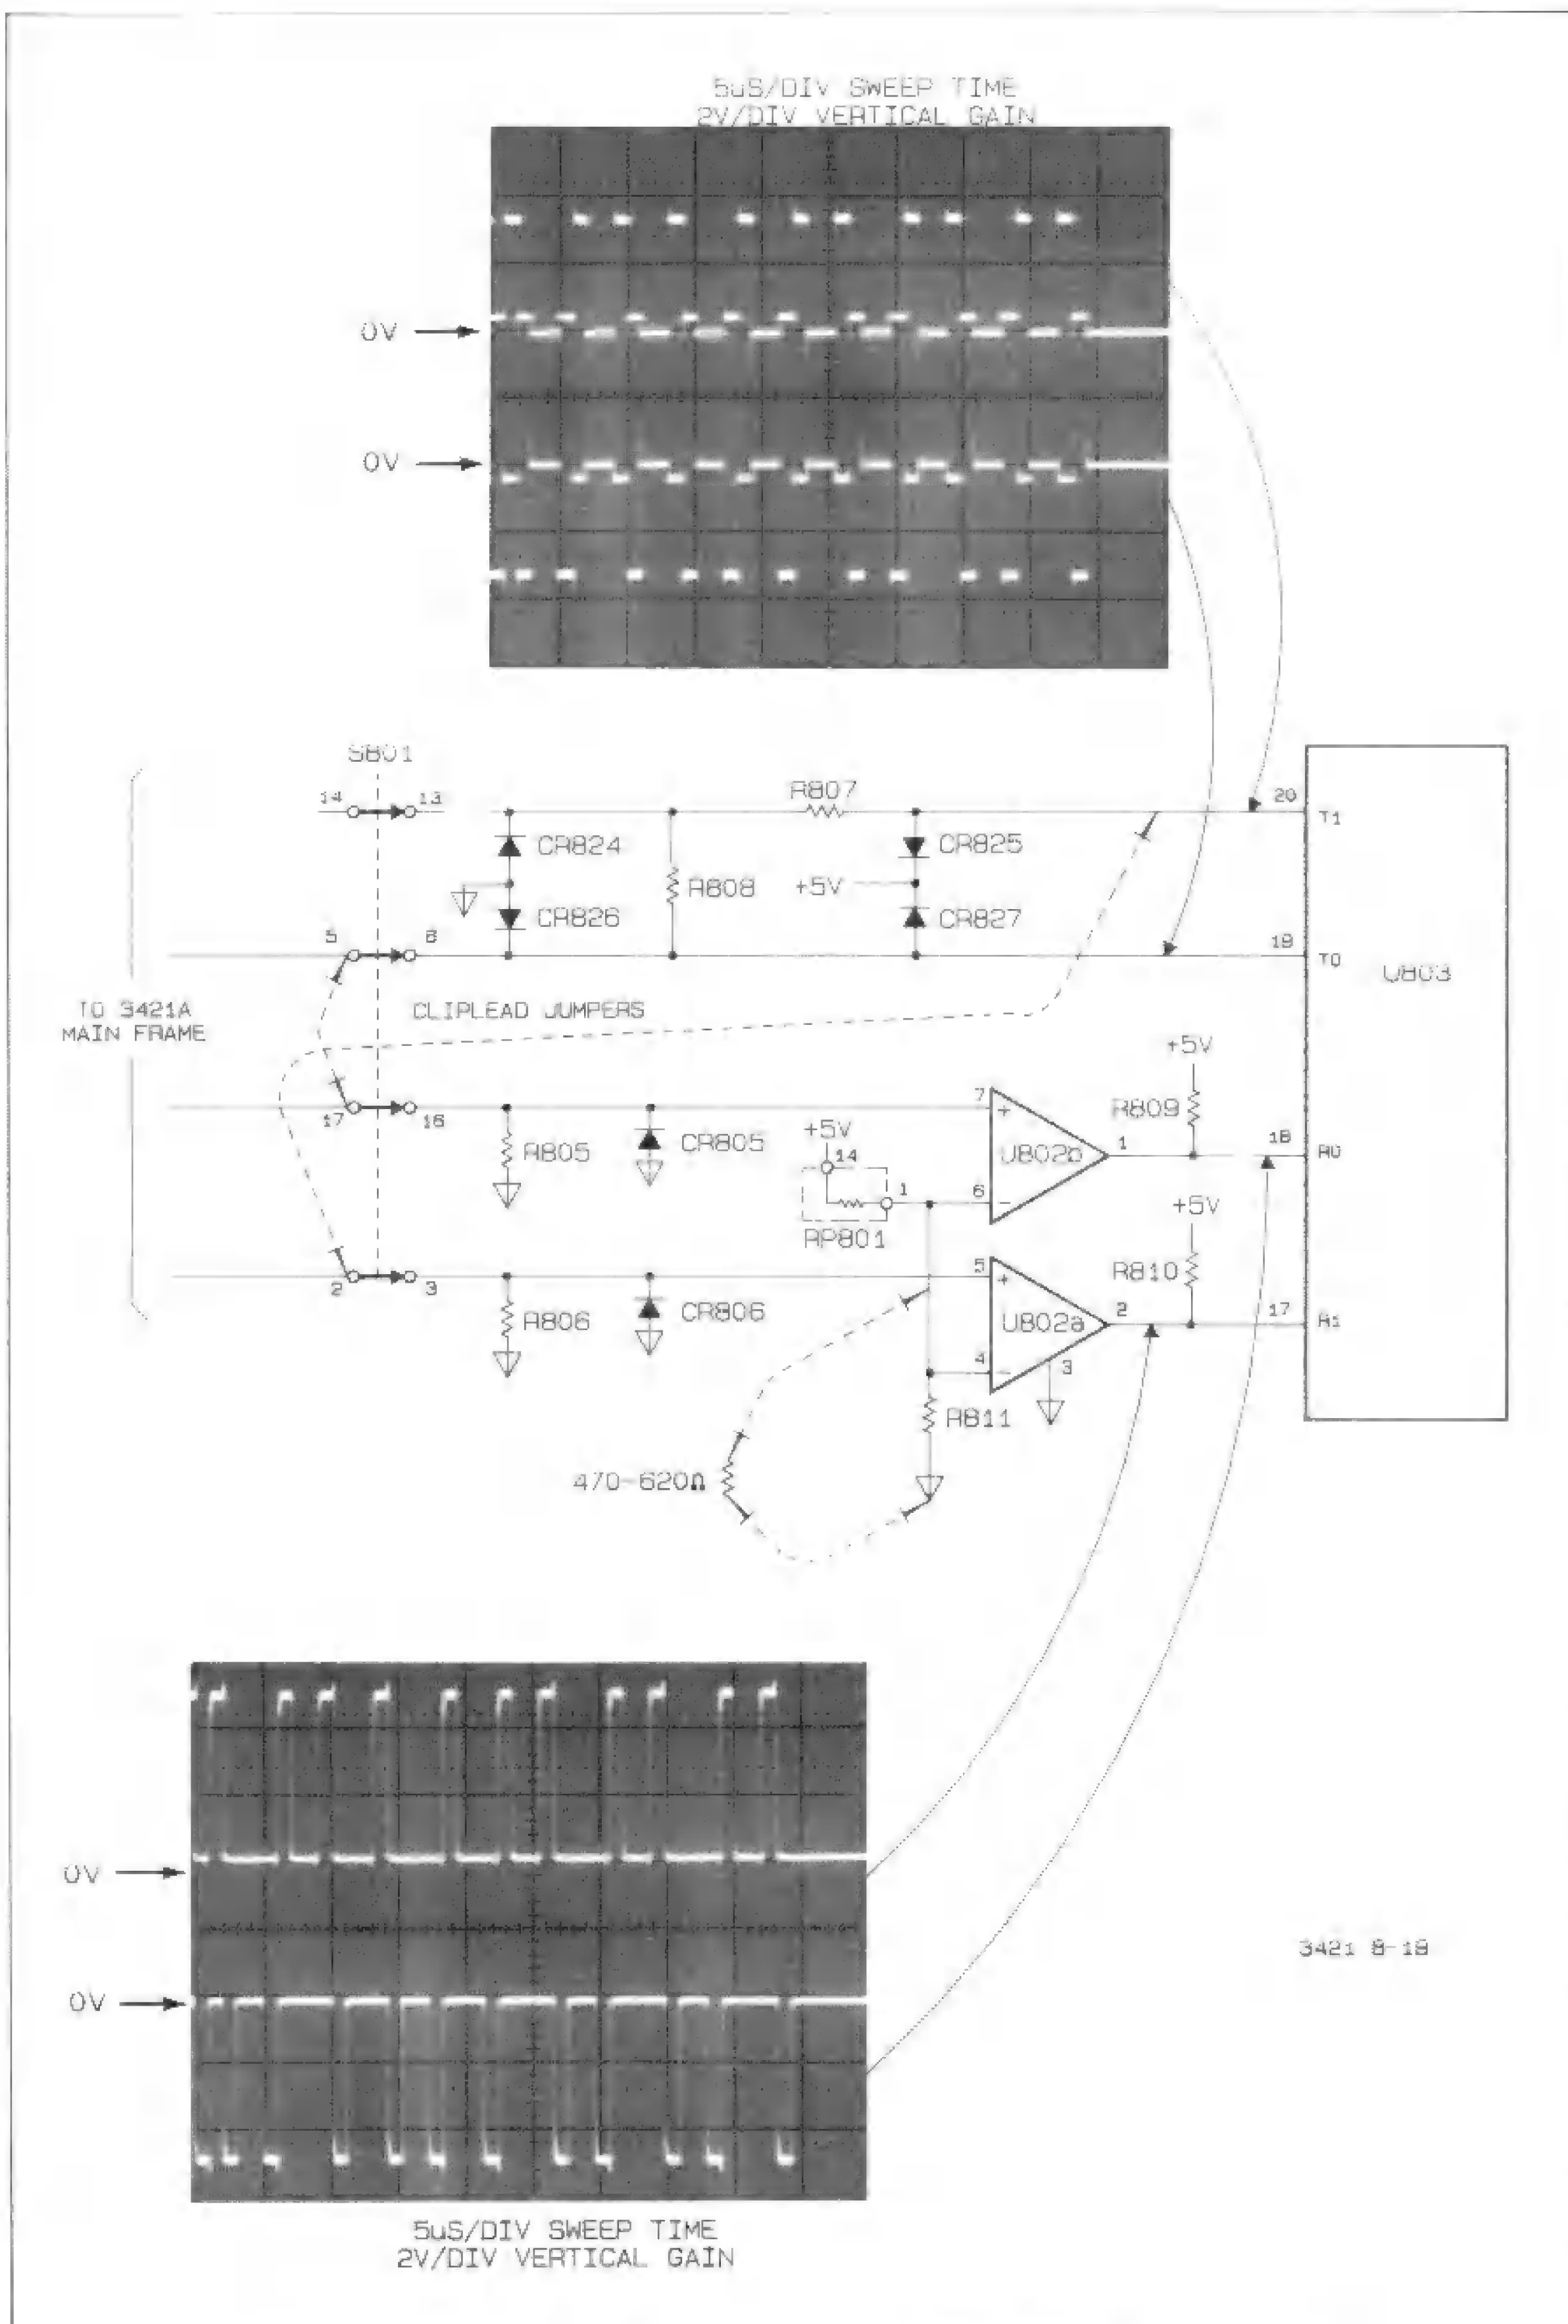

Figure 4-8-19. HP-IL Waveforms (SA Test #2)
m. Set a dual trace oscilloscope to 5 $\mu$ S/div sweep time and 2V/div vertical gain. Invert channel B of the oscilloscope. With the oscilloscope probes referenced to ground on the HP-IB assembly, check U803 pin 19 and 20, and then U803 pin 18 and 17 for the waveforms shown in Figure 4-8-19. To obtain the waveform shown in the figure, the HP-IB assembly must be running SA Test #2. Also, the jumpers are configured to simulate an HP-IL loop connection. Hence, the waveforms at U803 pins 17 and 18 are generated as a result of the waveforms at U803 pins 19 and 20. If the waveforms are missing or incorrect, do the following: